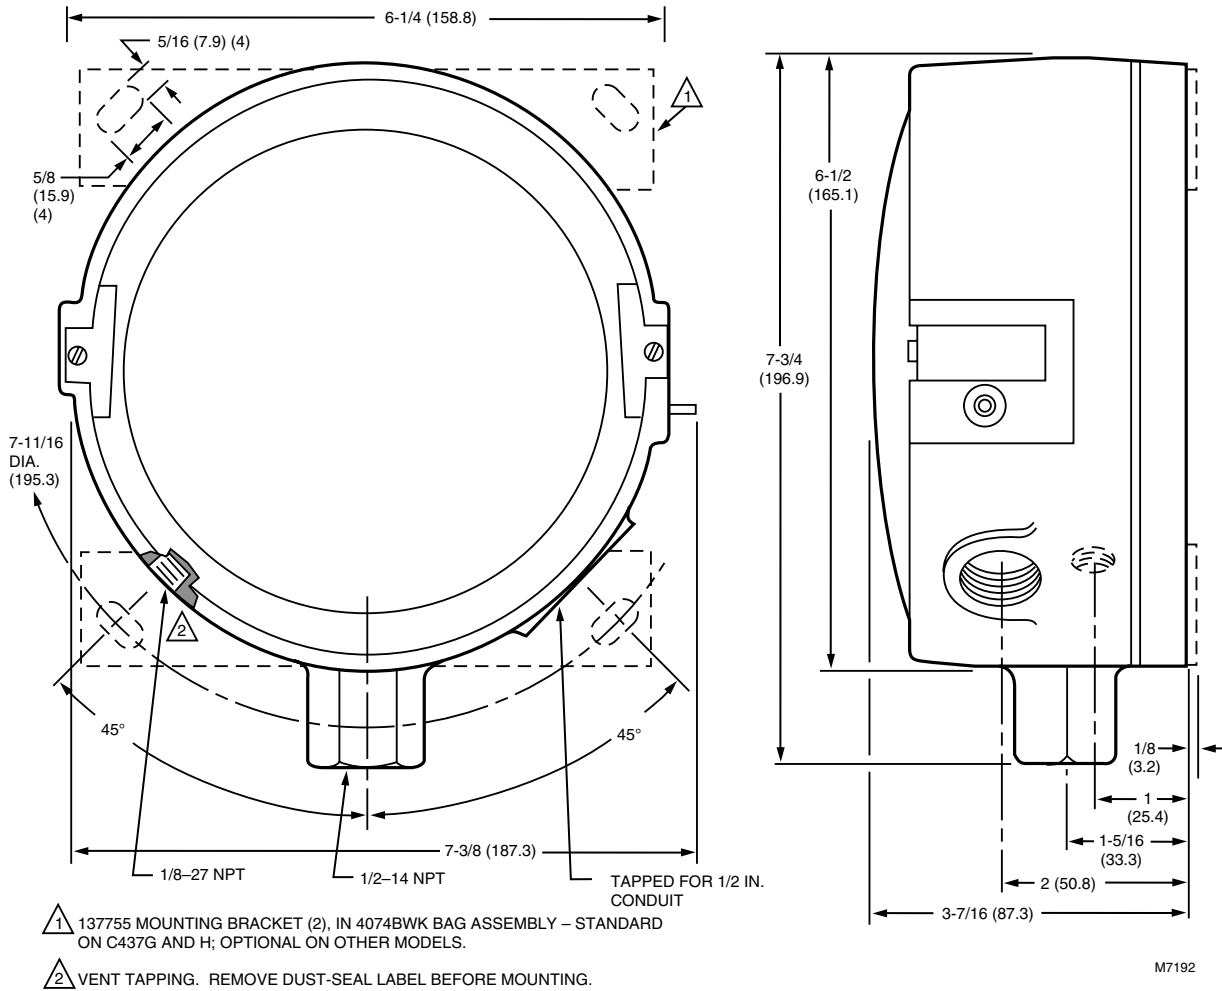

Fig. 1. Installation dimensions of the C437 and C637 gas pressure switches, in in. (mm).
- 4074BWK Bag Assembly: Contains two 137755 Mounting Brackets and four self-tapping screws: for surface mounting (standard on C437G and H). Mounting brackets are shown by dashed lines in Fig. 1.
Fig. 1 shows the mounting dimensions for the C437 and C637 models, and for the accessory mounting bracket (standard on C437G and H). See Fig. 2 for the individual components.